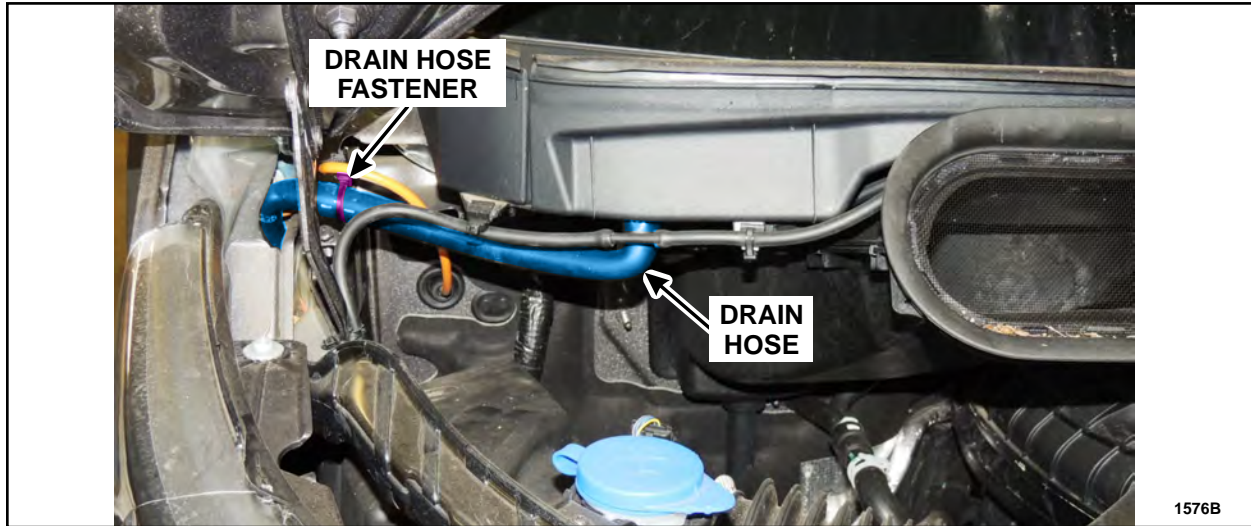

FIGURE 3
4. Remove and discard the drain hose from the passenger side of the cowl panel grille. See Figure 3.